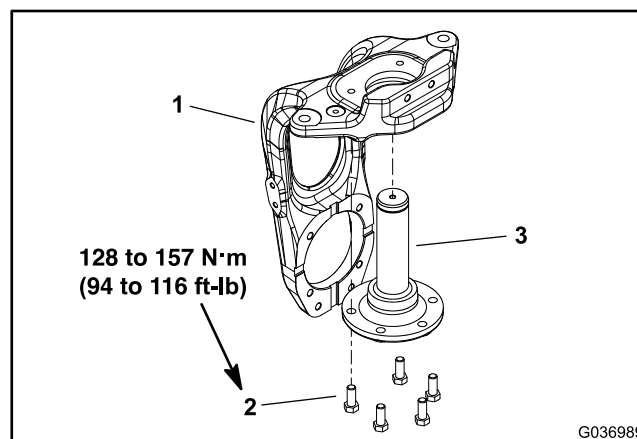

Figure 274
11. Clean the steering fork spindle (item 3 in Figure 274). Inspect the shaft for wear and replace the steering fork spindle if the shaft is worn or damaged.
2. Apply a light coating of grease to the steering fork spindle (item 3 in Figure 274).